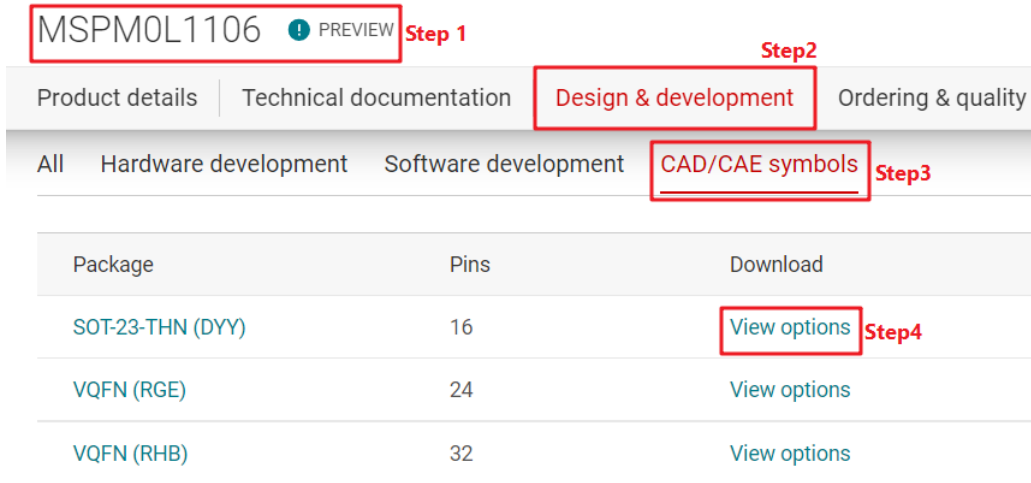

Figure 6-11. Ultra Librarian Tool Entrance
1. Go to the entrance of Ultra Librarian tool under the MSPM0 device page using the steps shown in Figure 6-11.